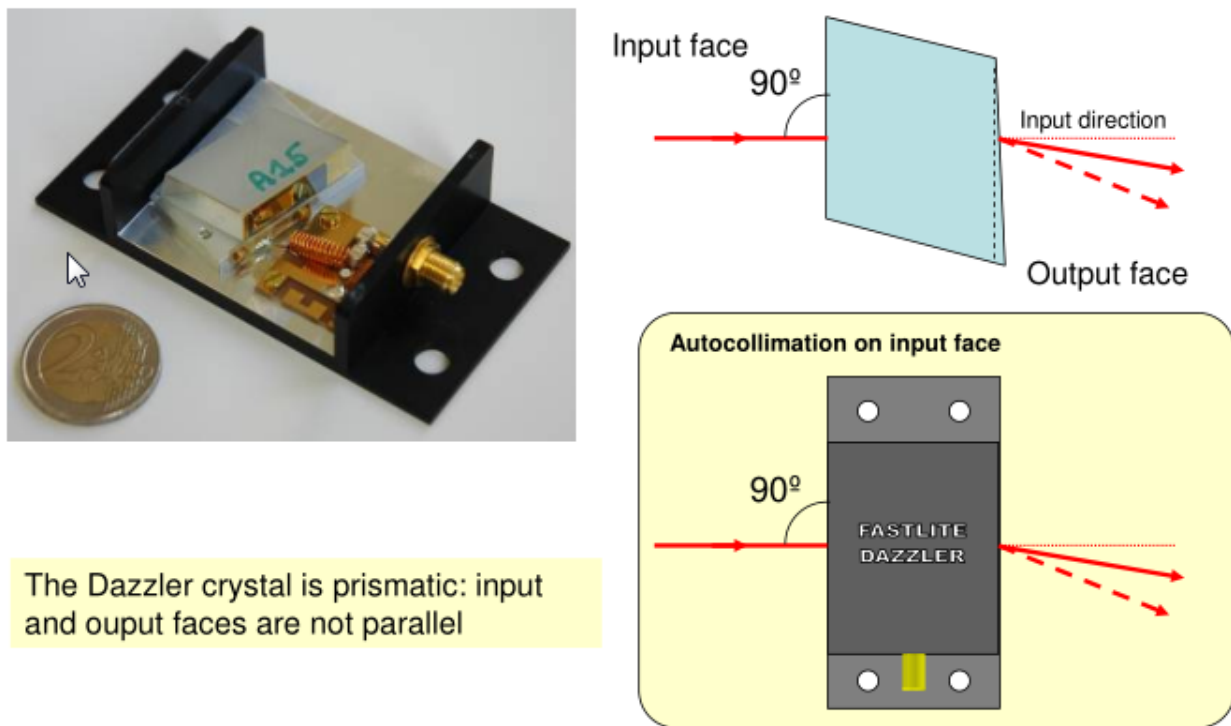

Figure 3.4: Details of the Dazzler crystal
For proper operation, the input optical beam has to be aligned with the acoustic axis (Figure 3.4). For a precise alignment, the crystal should be mounted so as to have rotational control to align the input beam perpendicular to the input face with about 1 mRad accuracy and translation controls along the x and y directions (0.1 mm accuracy).
- **item-2** The acousto-optic transducer, being non-transparent, is not situated on the optical input face, but on a side of the Dazzler crystal (Figure 3.4). Hence the acoustic pulse needs time to propagate from the transducer to the optical input face.